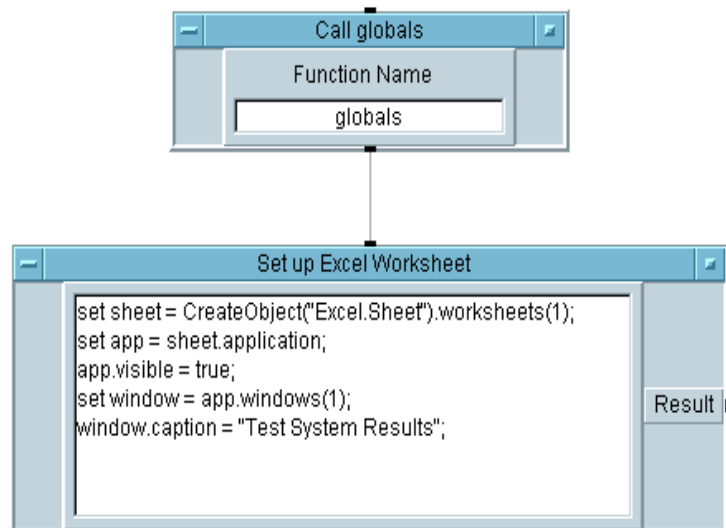

Figure 155 Setting Up the MS Excel Worksheet
- 8 Inside **Set up Excel Worksheet**, enter the lines shown in Figure 155. Notice that semicolons are used for line separators, just as in ANSI C.